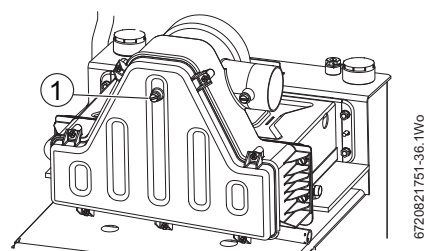

Fig. 41
- ▶ Refit the sample point cap, hand tighten only do not over tighten (refer to figure 41 item [1]).